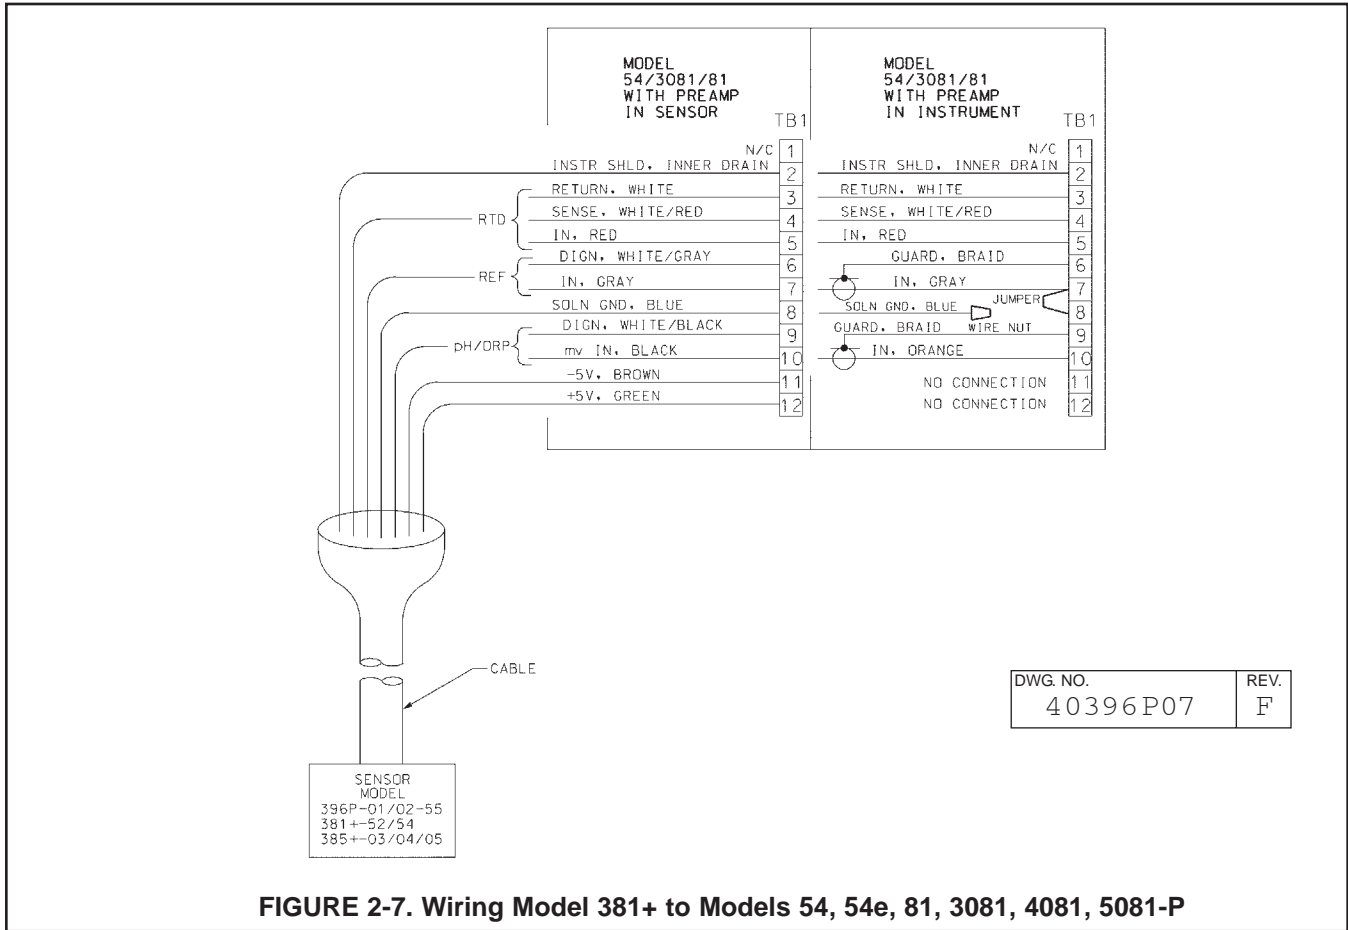

FIGURE 2-7. Wiring Model 381+ to Models 54, 54e, 81, 3081, 4081, 5081-P
2.6 WIRING. Connect the sensor wire to the transmitter terminals as shown in Figures 2-7 through 2-13.